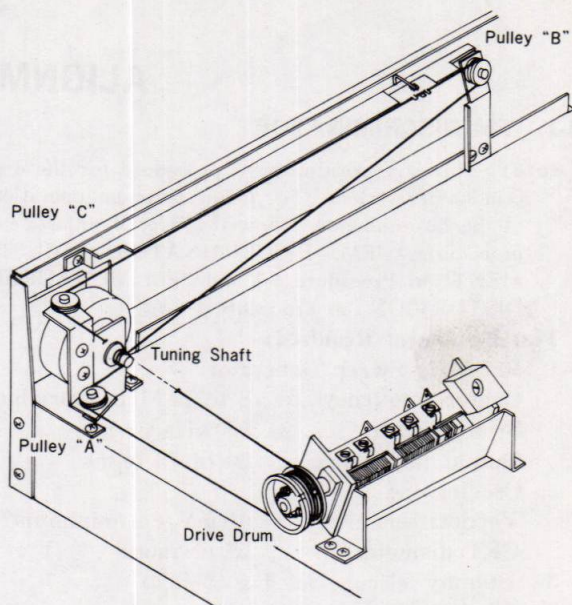

Fig. 2-14 Dial-cord stringing completed
9. Run the cord over pulley "B" while maintaining tension on the cord. See Fig. 2-14.
11. After completing the dial-cord stringing (Fig. 2-14), check out the tuning system for proper operation and apply a drop of contact cement to each eyelet in the drum.